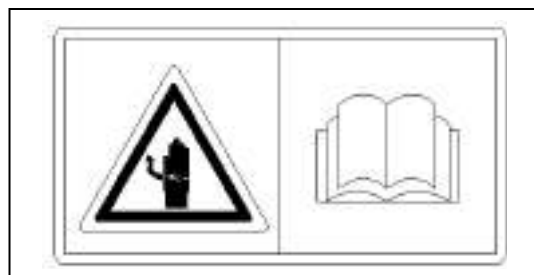

Figure 1-4 Precautions on cable handling
(3) Precautions on cable handling, as shown in Figure 1-4